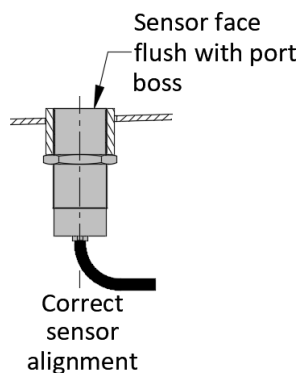

Figure 2 – Flush Mount DLA Sensor
3. Thread the DLA sensor into the DLA port so that the sensor face is flush with the end of the sensor port boss (Figure 2).